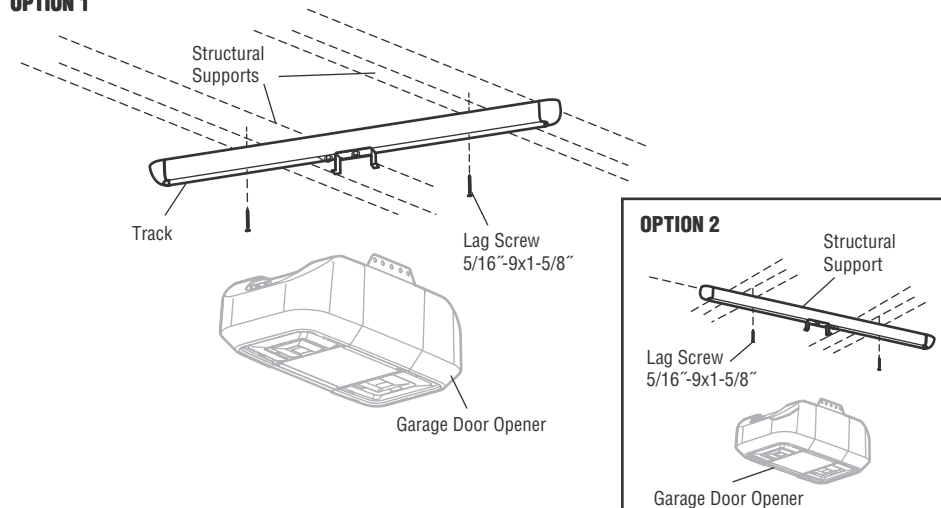

FIGURE 4
4. ATTACH THE DOWN ROD TO THE SLIDE MECHANISM IN THE TRACK (FIGURE 4)